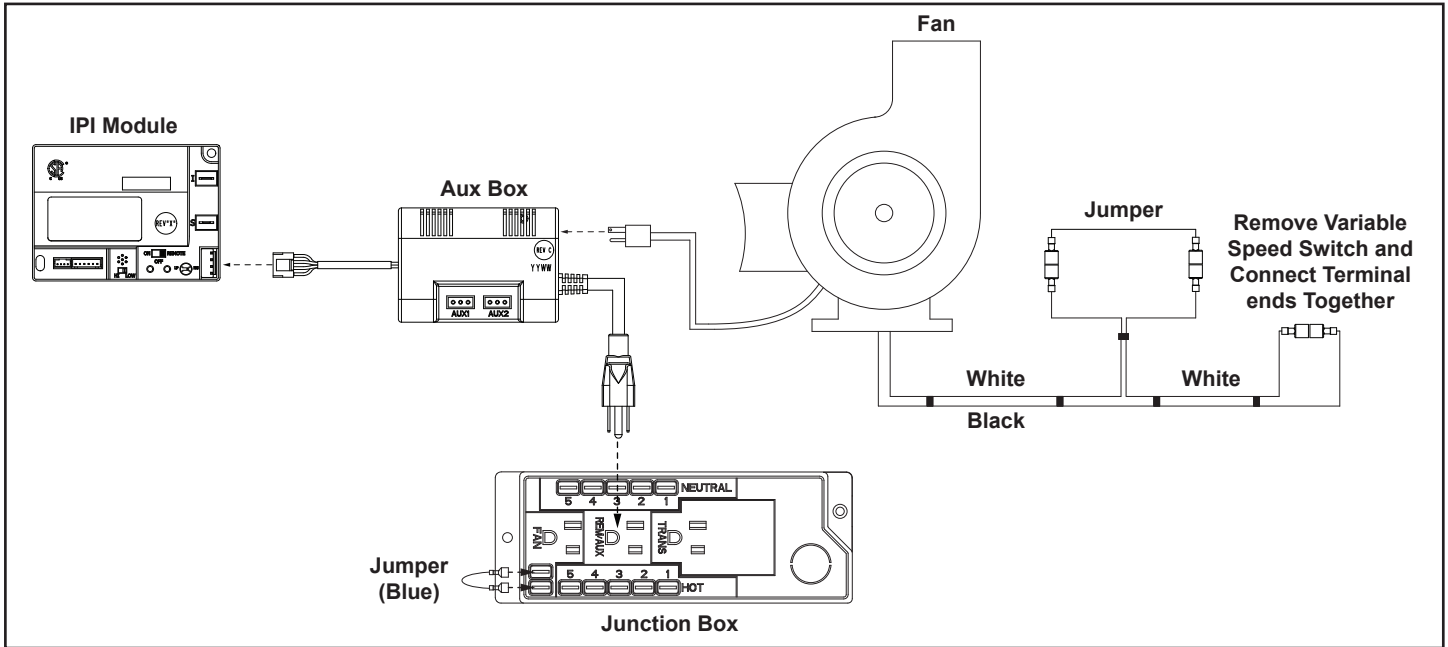

Figure 8.10 - Fan Wiring Diagram
4. Plug the wiring harness extending from the auxiliary box into the IPI module supplied with the stove. See figure 8.10 (Wiring Diagram)